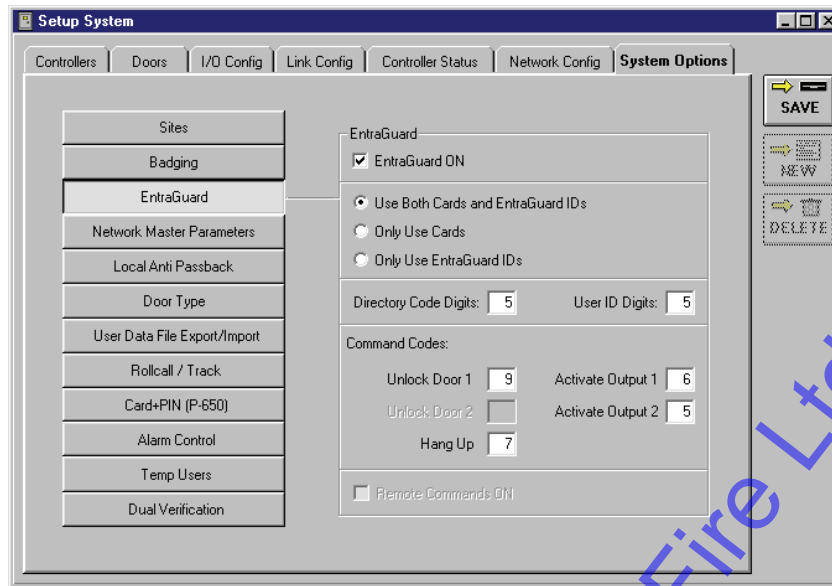

Figure 10-3: System Options Tab - EntraGuard Enabled
- The EntraGuard fields change from grey to black letting you know it is available for editing of specific EntraGuard options (see Figure 10-3 on page 4 of this section).
Command codes are the telephone keys used to perform certain functions such as allow entry through the EntraGuard controlled door, etc. See Figure 10-3 on page 4 of this section for their location in the EntraGuard field.